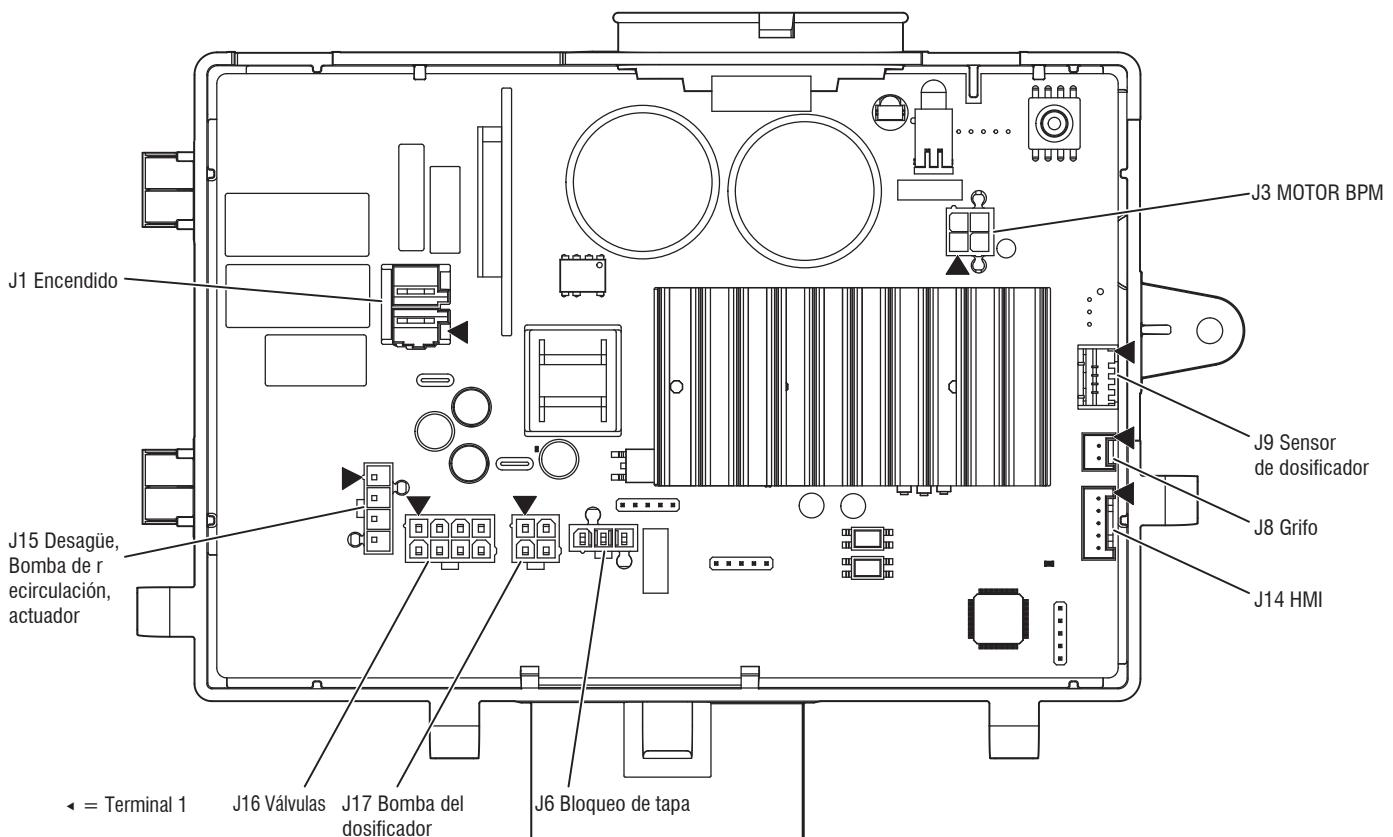

Figura 4: Control principal (ACU)
- c. Retire el conector **J8** del control principal. Consulte la Figura 4: Control principal.